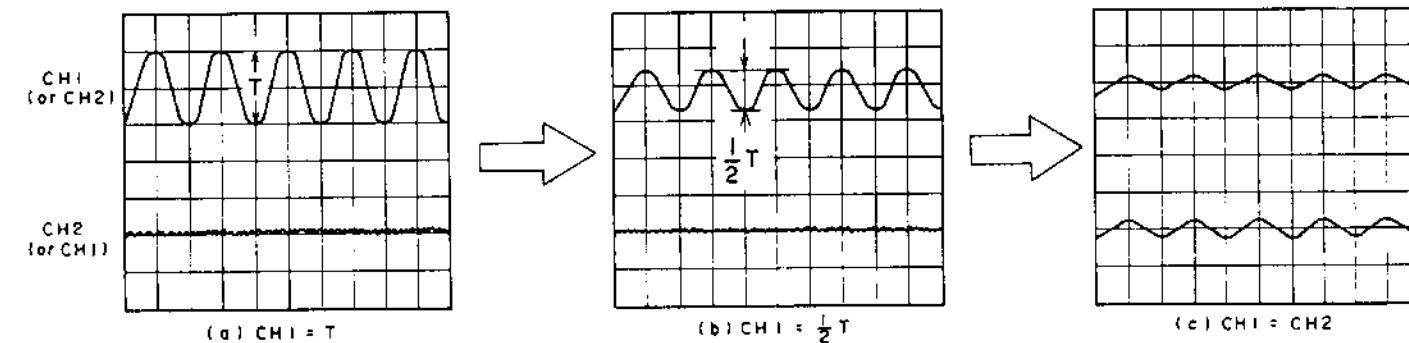

Fig. 5.12
- 3) Turn the hexagon screw to obtain 1/2 of the output level of either CH-1 or CH-2 whichever has an output signal as shown in Fig.5-12.